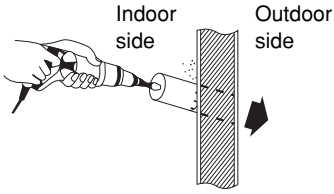

Fig. 10
- (4) Using a sabre saw, key hole saw or hole-cutting drill attachment, cut a hole in the wall. See Table 4 and Fig. 10.